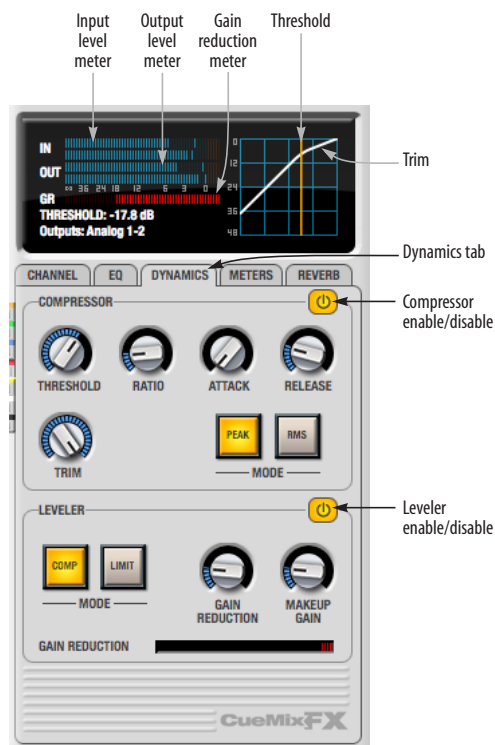

Figure 10-26: The Dynamics tab.
The Dynamics tab (Figure 10-26) displays the Dynamics processing settings for the input or output channel that currently has the focus. Click any focus button in the Inputs or Outputs tab to view the Dynamics tab settings for the channel.
Each input and output channel has a global *Dynamics enable/disable* button (Figure 10-3 and Figure 10-6). This button enables or disables all dynamics processing for the channel. In addition, the Dynamics tab has two different dynamics processors, the Compressor and Leveler, which can be individually enabled or disabled (Figure 10-26) for the channel.
The *Compressor* (Figure 10-26) lowers the level of the input when it is above the threshold. The amount of attenuation is determined by the *Ratio* and the input level. If the input is 6 dB above the *Threshold* and the Ratio is 3:1, then the output will be 2 dB above the Threshold. When the input level goes above the threshold, the attenuation is added gradually to reduce distortion. The rate at which the attenuation is added is determined by the *Attack* parameter. Likewise, when the input level falls below the Threshold, the attenuation is removed gradually. The rate at which the attenuation is removed is determined by the *Release* parameter. Long Release times may cause the audio to drop out briefly when a soft passage follows a loud passage. Short Release times may cause the attenuation to pump when the average input level quickly fluctuates above and below the Threshold.
The Threshold can be adjusted by turning the Threshold knob or by dragging the Threshold line directly in the compressor graph (Figure 10-26).
The *Input Level* meter (Figure 10-26) shows the level of the input signal before it enters the compressor. It shows either the peak level or the RMS level, depending on which mode is currently chosen.
The Gain reduction (GR) level meter (Figure 10-26) displays the current amount of attenuation applied by the compressor.
The *Output Level* meter (Figure 10-26) displays the peaks of the output signal. Trim is applied before the Output Level meter.
The Leveler™ (Figure 10-26) provides an accurate model of the legendary Teletronix™ LA-2A® optical compressor, known for its unique and highly sought-after Automatic Gain Control (AGC) characteristics. The Traveler-mk3 Leveler faithfully models the LA-2A using the on-board DSP with 32-bit floating point precision.
The *Comp* and *Limit* buttons (Figure 10-26) model the original LA-2A Limit/Compress mode switch. The effect is very subtle, with the Limit option behaving only slightly more like a limiter than a compressor. The switch increases the level of the input to the AGC model and runs the attenuator at a slightly lower level. The Leveler then responds more strongly to transients, but otherwise still behaves like a leveling amplifier.
Gain Reduction (Figure 10-26) sets the strength of the signal sent to the AGC model. The Gain Reduction meter (Figure 10-26) shows the amount of gain reduction being applied to the input signal.
Makeup gain (Figure 10-26) amplifies the output signal to make up for gain reduction.